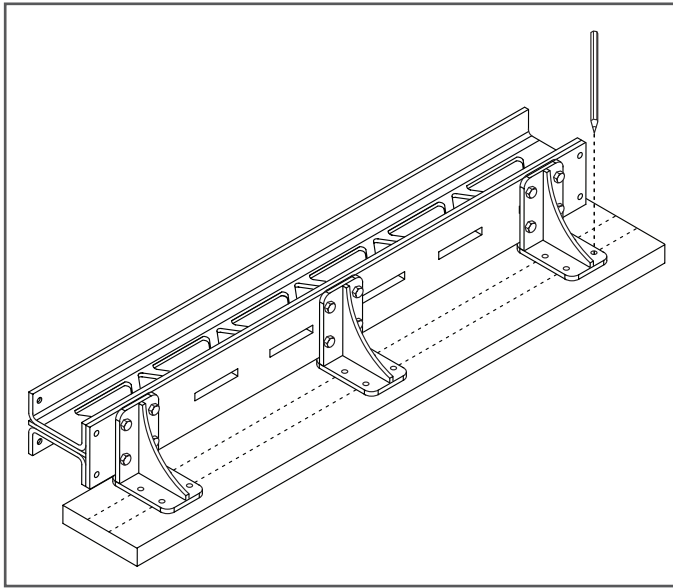

Figure 5
6. Lay the I-Beam on top of the header, centering it with the line drawn on the header. Ensure the track is 2" from either end of the header. Using a pencil, mark the hole positions in the brackets onto the header (Figure 5). Set the the I -Beam aside.